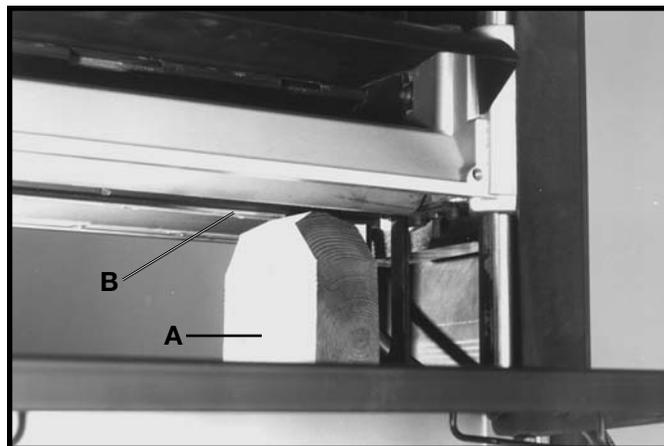

Fig. 37
4. Place the gage block (A) Fig. 37, on the table, over a 0.020" feeler gage and position the gage block (A) directly underneath the cutterhead. Raise or lower the head assembly and rotate the cutterhead, by following **STEP 5** under **“REPLACING KNIVES,”** until one of the knives (B) just touches the top of the gage block when the knife is at its lowest point. Then tighten cutterhead lock handle.